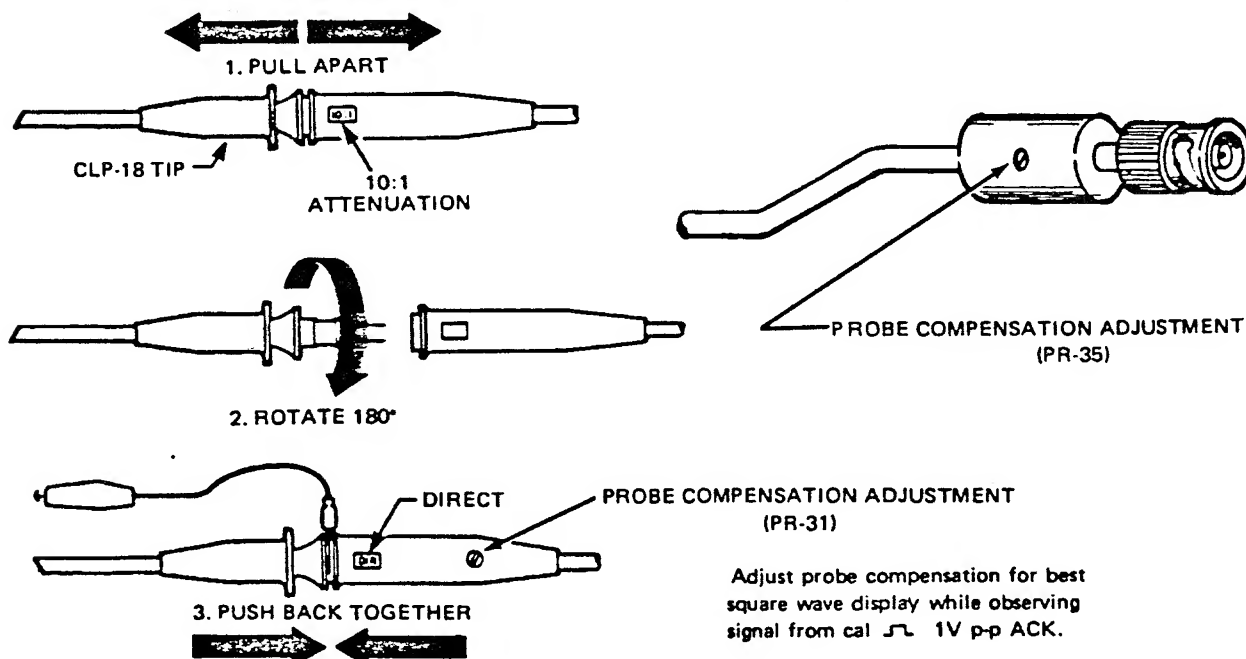

Fig. 3. Probe details.
30. **Probe (See Fig. 3).** The B & K-Precision Model PR-31 combination 10 : 1/Direct probes have been designed for use with this oscilloscope. However, any probe designed for use with an oscilloscope having a nominal input impedance of 1 megohm shunted by 35 pF and capable of operation up to 10 MHz, can be used.